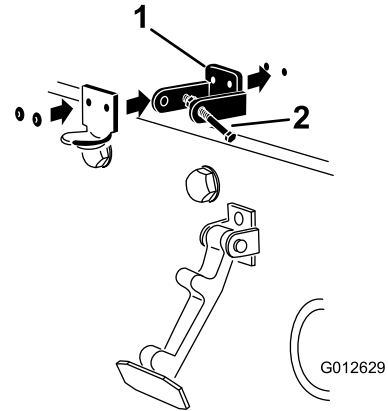

Figure 8
3. While aligning the mounting holes, position the CE lock bracket and the hood-latch bracket onto the hood. The lock bracket must be against the hood (Figure 8). Do not remove the bolt and nut assembly from the lock bracket arm.
5. Rivet the brackets and the washers to the hood (Figure 8).